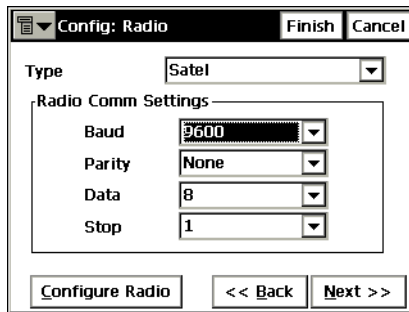

Figure 3-50. Config: TS Radio
6. For a Robotic Survey, choose the modem to be used and its parameters, then tap **Next** (Figure 3-50 on page 3-35).